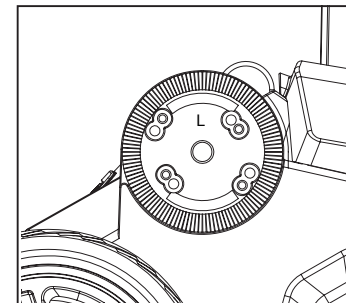

Fig. 2
NOTE: Lower Handle bars (6) and handle supports (12) are marked with "L" and "R" (Fig. 2,3)